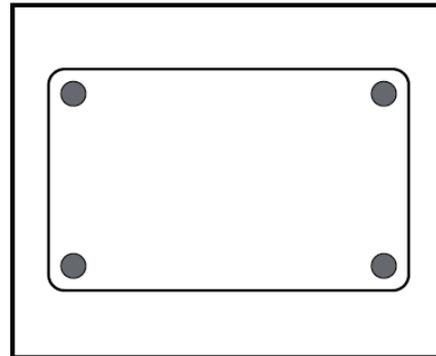

Figure 1
3. If placing on bench or table top, adhere the 4 felt pads to unit base to protect table top surface. Remove adhesive backing and apply one pad to each corner of unit base depending on preferred position in Step 3 (Figure 1)